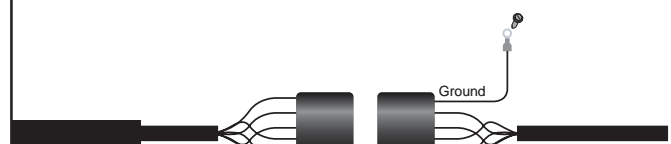

Figure 9
8. Attach the terminal end of the ground wire to a clean section of the framerail using the provided self-tapping screw. (Figure 9).